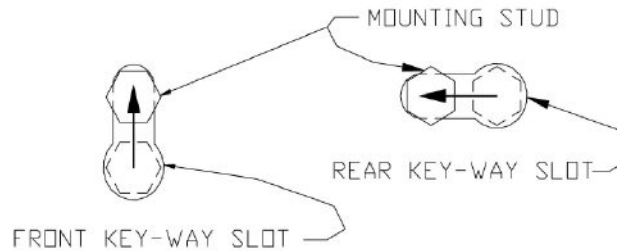

Fig. 1.
3. Begin to hang the pan support by placing the rear key-way slot onto the rear mounting stud and slide the rack until the slot sits on the mounting stud. When this is done correctly the front mounting stud will be in position to place the front key-way slot. Slide the rack down into its correct position. See Fig. 1.